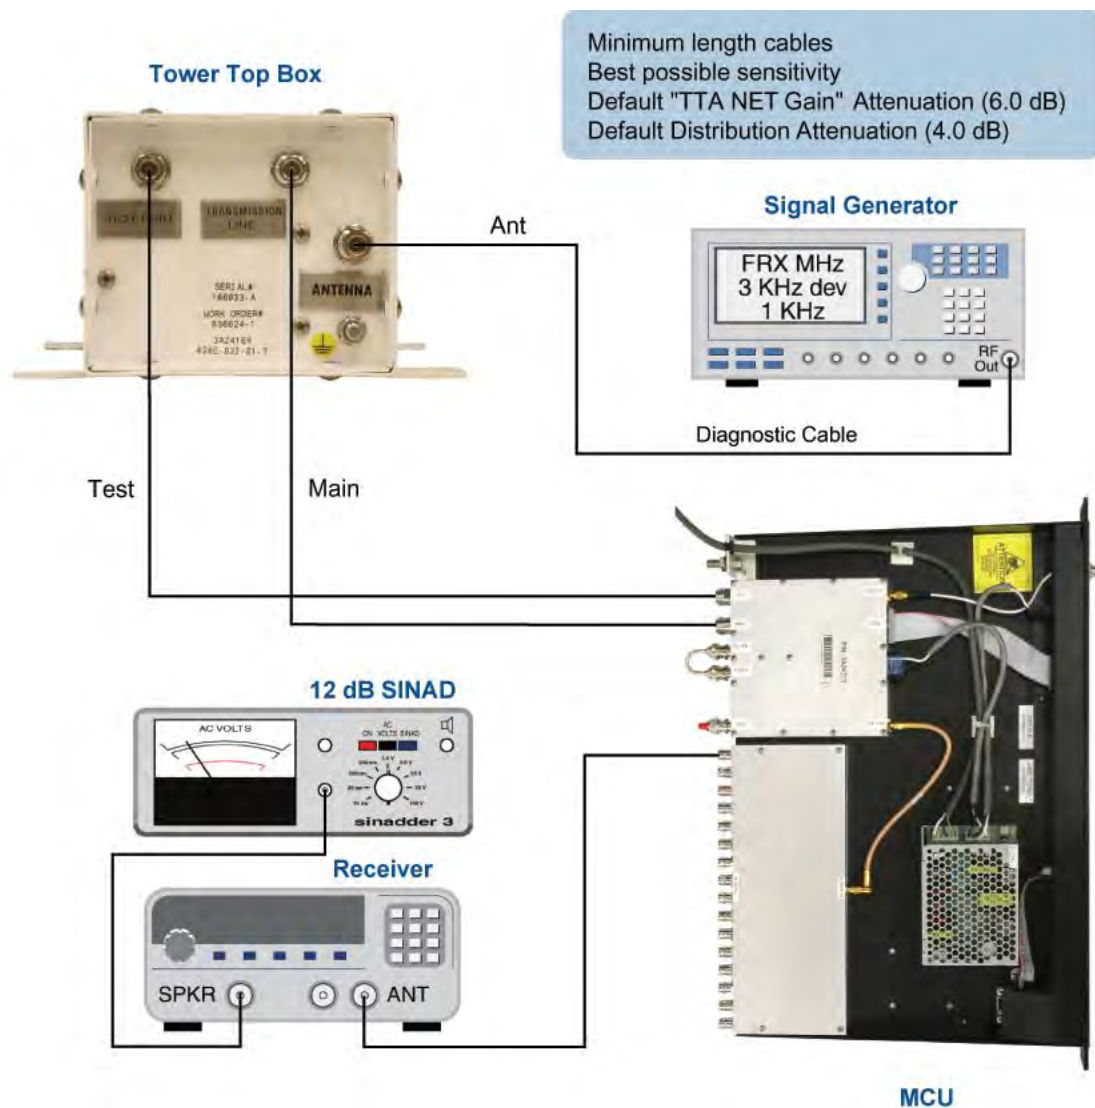

Figure 8: Test equipment interconnection for "bench testing" of system components.
- 2) To interconnect the equipment connect a cable between the main port on the tower box and the main port on the base unit. Also connect a cable from test port connector to the test port connector. **Figure 8** shows all of the equipment interconnections for bench testing. Inject the test signal into the tower box antenna port. Be sure that the signal generator is setup for a 3 KHz deviation with a 1000 Hz tone (analog) or proper pattern for BER testing. Connect the SINAD/Bit Error Rate meter to a receiver and connect the receiver to one of the RF output ports on the back of the base unit.